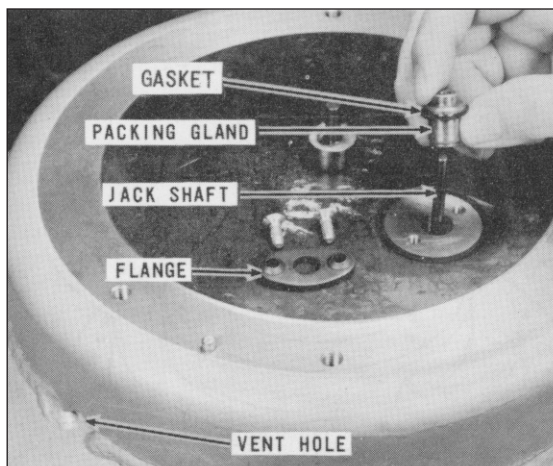

Figure 6 – Removing Packing Gland
3. Packing gland may then be replaced as shown in Figure 6. See Table 12 on page 28 for torque values.